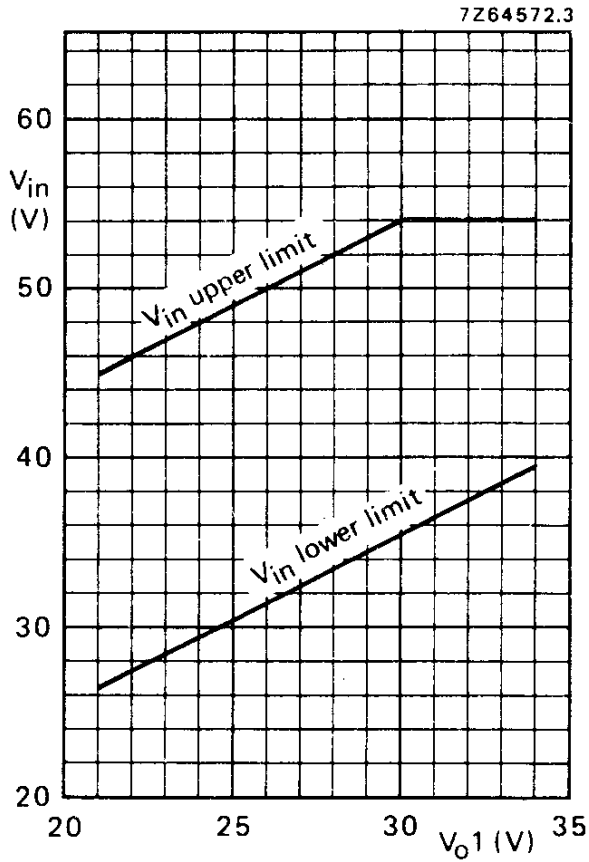

Fig. 4 Range of values for V_{O1} .
1. The V_{iN} range depends on the value of V_{O1} (see Fig. 4).